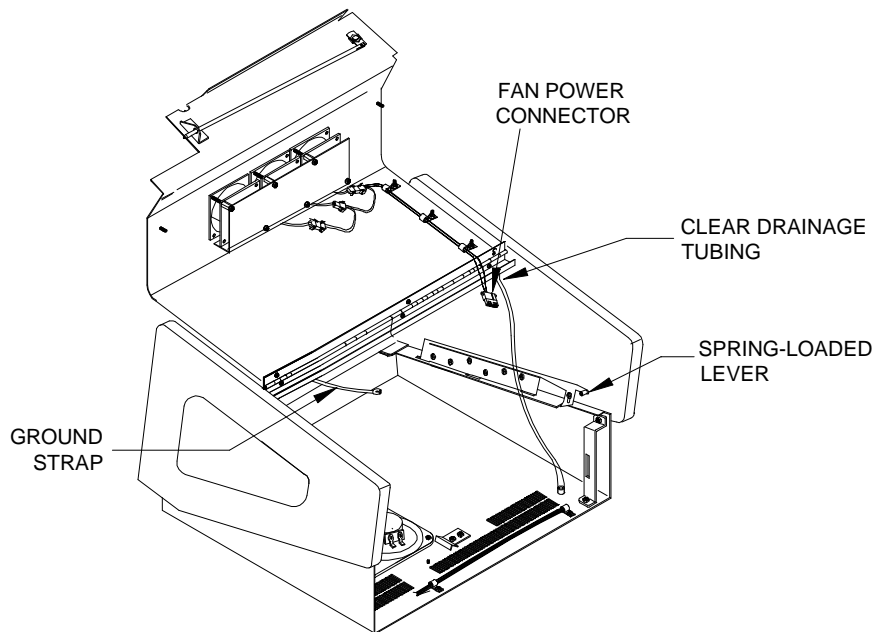

FIGURE 4 - FORCE CLASSIC - HOOD ASSEMBLY
- power connector, then the clear drainage tubing (from lid end) and ground strap. Also remove the monitor control board attached with velcro to the inside of the game. Then press up on the spring-loaded levers (located on each side of the lid), push the levers forward, and lift and remove the lid. Also remove the front bezel. See Figures 4 and 5.
14. After replacing the front bezel, install the hood on the chassis, connecting the fan power connector, monitor control board, ground strap, and plastic drain tube. See Figure 4 for locations. Pull the hood towards you until the spring-loaded levers lock into place.